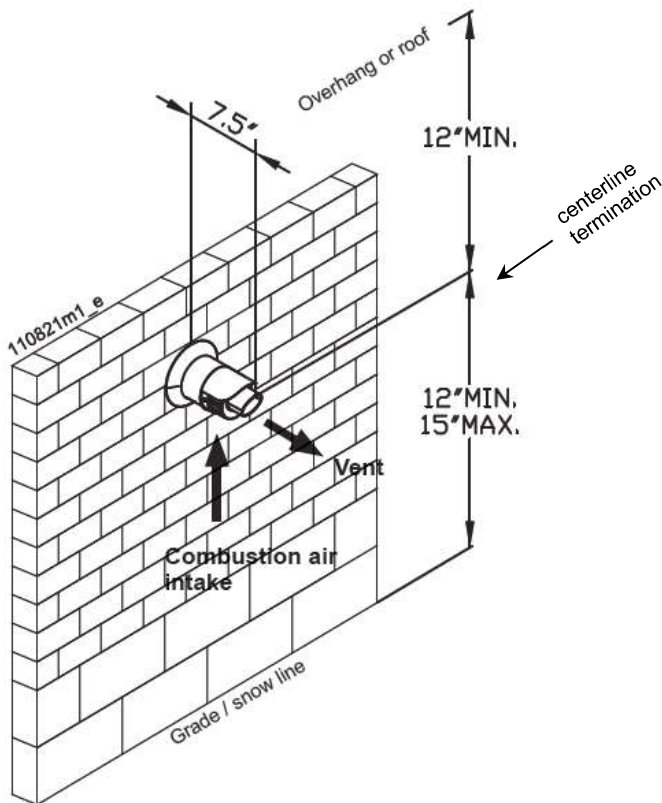

Figure 11.21
NOTICE	Ensure termination location clearance dimensions are as shown in figures 11.21 and 11.22
2. Prepare the vent termination and the air intake termination elbow (figure 11.21) by inserting bird screens.
4. The air intake piping must terminate in a down-turned 180° direction utilizing two elbows see figure 11.21
5. The exhaust piping must terminate in a vertical coupling as shown in figure 11.21. The top of the coupling must be at least 1 foot above the air intake. When the vent termination uses a rain cap, maintain at least 36" (914 mm) above the air inlet. The air intake pipe and exhaust vent pipe can be located in any desired position on the roof, provided that the exhaust vent termination is at least 1 foot above the air intake.
6. Maintain the required dimensions of the finished termination piping as shown in figure 11.21.